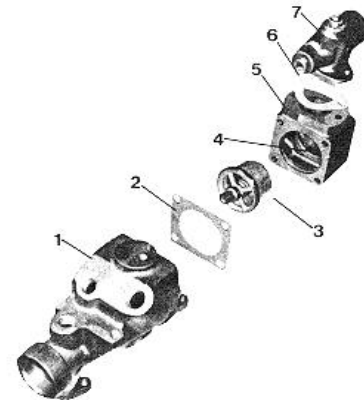

Fig. 8-55 (N10814). The Thermostat Housing And Seal.
1. Remove the connection for the water outlet (7, Fig. 8-55) and the gasket (6).
2. Remove the front water manifold (1) and gasket (2).
3. Remove the thermostat (3) and seal (4) from the housing (5).
1. Install the new seal (4, Fig. 8-55) into the thermostat housing (5). Use the Part No. ST-1225 Seal Mandrel to install the seal. Make sure the part number or metal side of the seal is against the mandrel when you install the seal.
3. Install the front water manifold (1) and a new gasket (2) to the thermostat housing.
4. Install the water outlet connection (7) and a new gasket (6) to the thermostat housing.